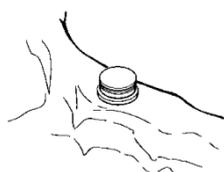

Fig. C2
3. Insert a LOCATOR[®] Denture Cap Processing Male Assembly onto each LOCATOR[®] Implant Abutment, leaving the White Block-Out Spacer beneath it. (Fig. C2) The Black Processing Replacement Male will maintain the overdenture in the upper limit of its vertical resiliency during the processing procedure.